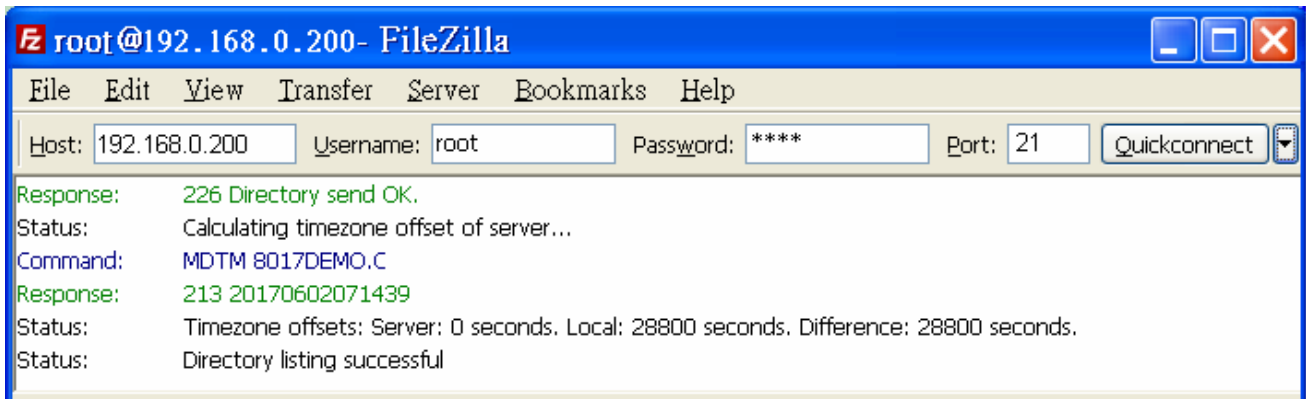

Fig.5-5
- (1) Open the FTP Software (for example, FileZilla - The free FTP solution for both client and server, <https://filezilla-project.org/>) and add an FTP Host to the LP-8x21. Type the **User_Name** (default value is “**root**”) and **Password** (default value is “**icpdas**”). Then click the “**Connect**” button to establish a connection to the ftp server on the LP-8x21. (refer to Fig. 5-5).